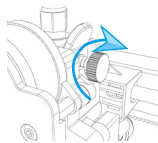

Figure 14
06. Note that when using M1S, make sure to tighten the extruder handle screws, otherwise the extruder's extrusion force will be insufficient. The adjustment method is shown in Figure 14 below.